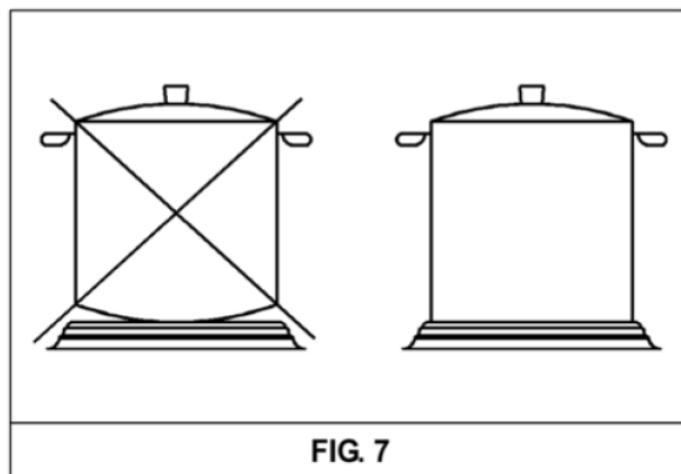

FIG. 7
- *To always use pans with flat and very thick bottoms (see fig. 7).*